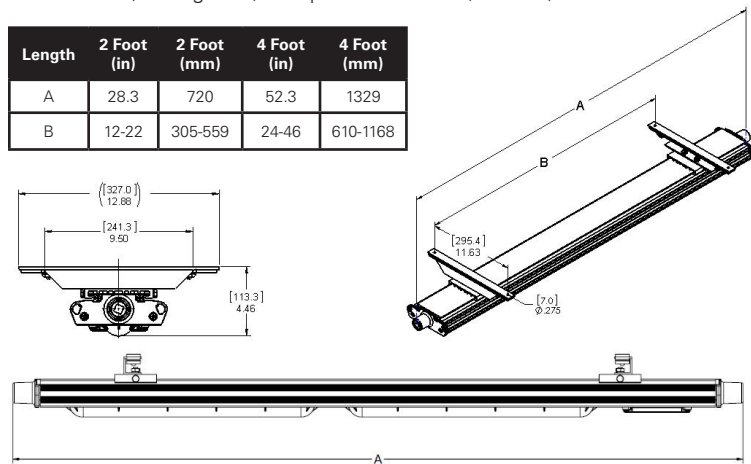

Figure 6. MP1054MTK Kit MagnaPro Mount Kit Installation
3. Mark and drill holes to install brackets to wall or ceiling with two (2) 1/4" bolts (not supplied). For MagnaPro, bracket holes may be spaced as required; it is recommended to keep them at least 12" (305mm) apart (see Figure 6).